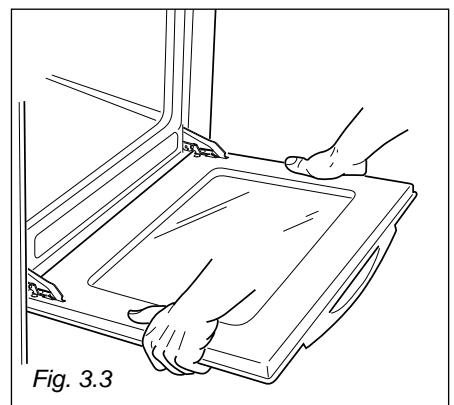
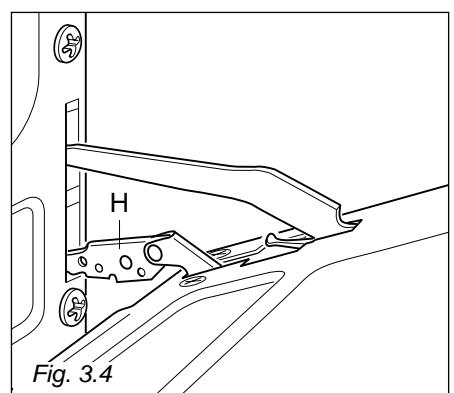

Fig. 3.3
Fig. 3.4
- Grip the door (as indicated in fig. 3.3) and, while closing it, release the two hinges as shown in fig. 3.4.
- Grip the door with your hands placed near the hinges and raise the levers "H" with your forefingers (fig. 3.4)